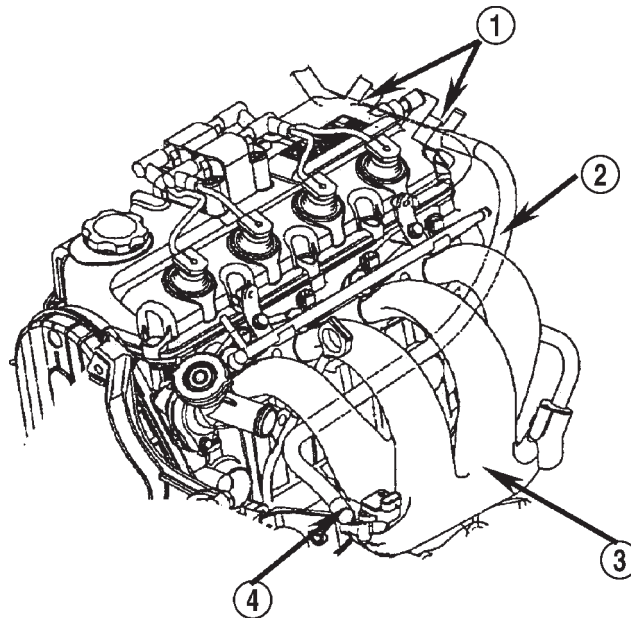

FIGURE 1
2. Disconnect the brake booster vacuum hose from the intake manifold nipple (Figure 1).
8. Connect the brake booster vacuum hose to the intake manifold nipple (Figure 1).